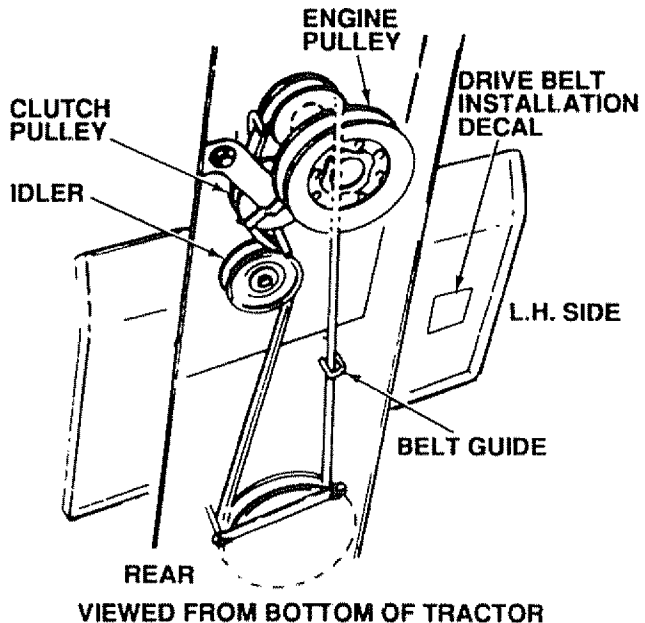

FIGURE 23
- Roll belt over engine pulley and off idler (Fig. 23).
- Reset parking brake. Pull belt over top of clutch pulley (Fig. 23).